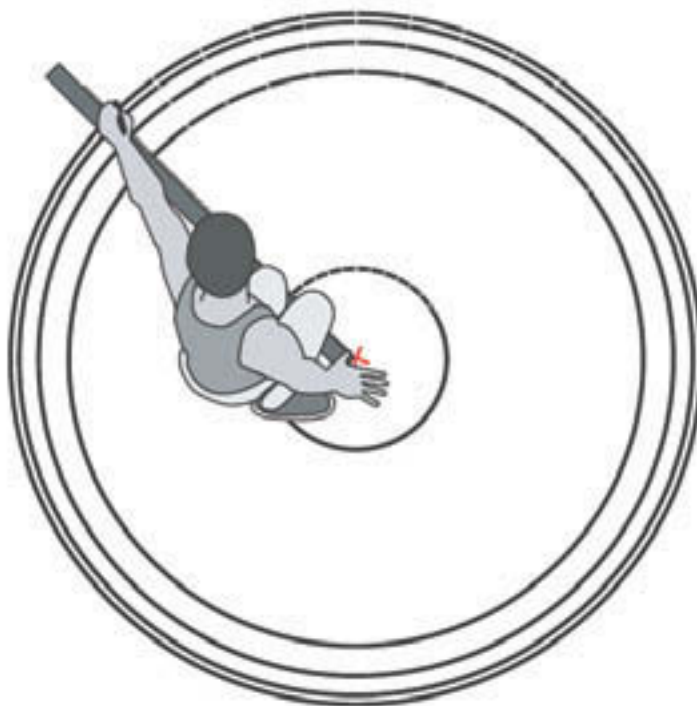

Fig. 16: Marking welding points on form
4. Once all of the pieces are cut and bent, take the largest hoop and mark it every 20 cm (or less, depending on the spacing of your vertical pieces). This will show you where the vertical pieces will be welded. Mark an X on the ground and lay the hoops on the ground, centered on this mark. Then, using a length of rebar, the center point and the markings on the largest hoop, mark the welding locations on the remaining hoops (figure 16).